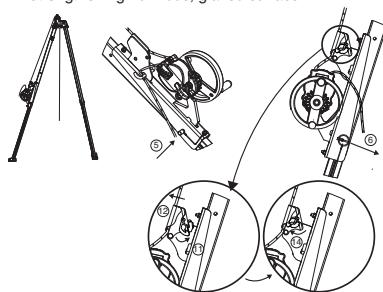

Fig. 9
**IMPORTANT:** Caution with respect to assembly direction: the rope blocking device must be pointing towards the top of the TRACPODE™ tripod (Fig.9).
5. Install the fastening pin for the bracket used with the DEROPE™ UP R descender. The fastening pin ensures two functions: locks the TRACPODE™ tripod leg and secures the bracket for the DEROPE™ UP R descender on the tripod leg (Fig.9, 5).
6. Lock the fastening pin using the safety pin (Fig.9, 6).
11. Open the rope blocking device on the bracket (Fig.9, 11).
12. Insert the rope coming out of the DEROPE™ descender in the rope blocking device of the bracket (Fig.9, 12).
14. Close the rope blocking device (Fig.9, 14).